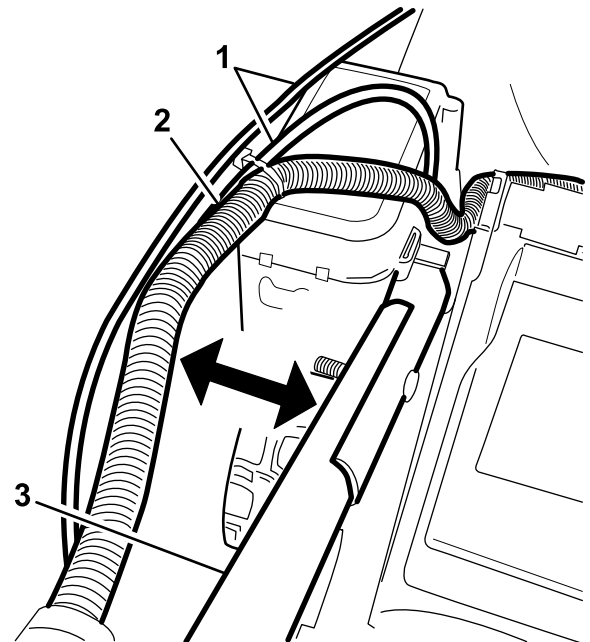

Figure 5
1. Handle knob (2)
**Important:** Route the cables to the outside of the handle as you unfold the handle (Figure 5).